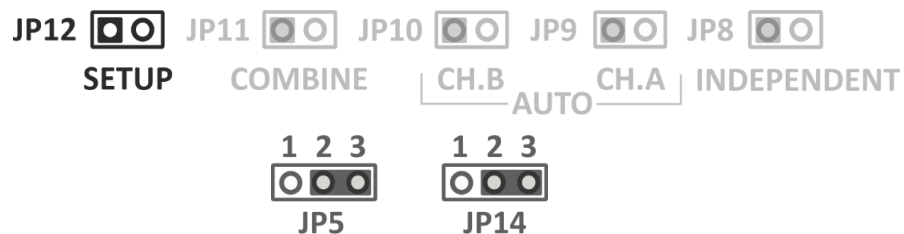

Figure 13 – Position of jumpers in the combining mode
- set the jumpers on terminals JP12, JP5, JP14, see figure 13;